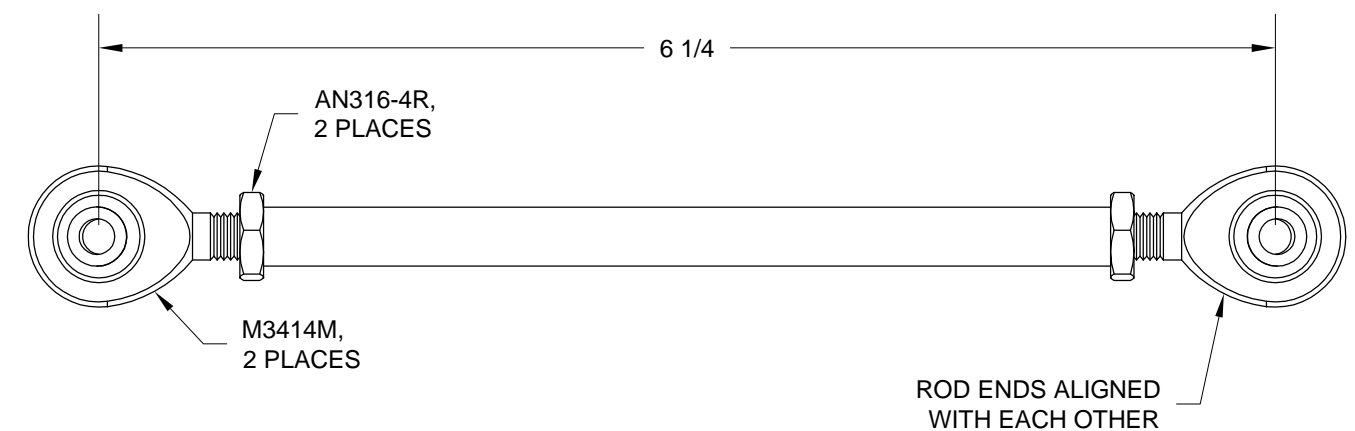

FIGURE 4: PITCH SERVO PUSHROD ASSEMBLY
Step 8: Assemble the F-1292 Pitch Servo Pushrod and hardware as shown in Figure 4 to make the Pitch Servo Pushrod Assembly.